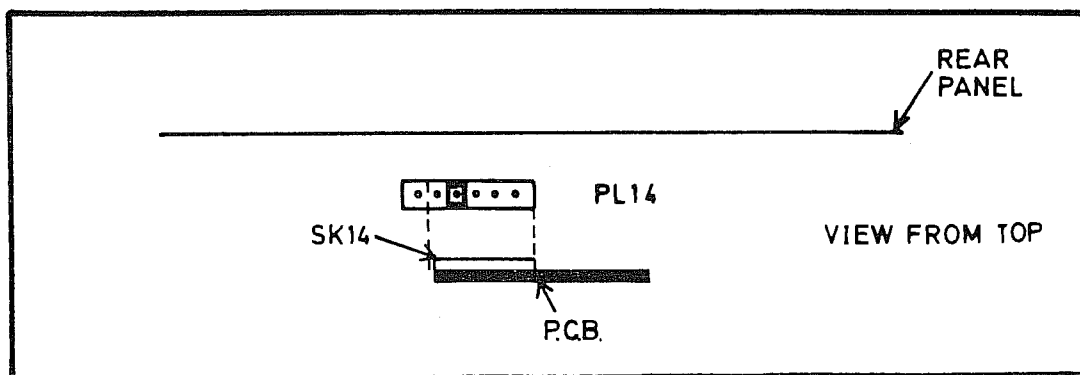

Fig 3.1 PCB to Motherboard Connection
- (6) Connect the PCB to the motherboard at PL14, ensuring that the socket fits over the portion of PL14 indicated in Fig 3.1.
- (7) Secure the plate assembly to the rear panel, using two M3 screws and washers. The screws pass through the holes adjacent to the **FREQ STD ADJUST** aperture and screw into the plate assembly.
- (8) Replace the top cover. Replace and secure the bezel.